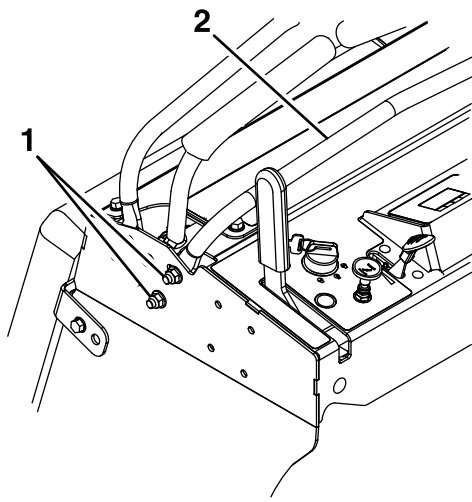

Figure 27
2. Loosen the bolts on both sides of the control tower by loosening the two nuts on each side (four total) of the console (see Figure 27).